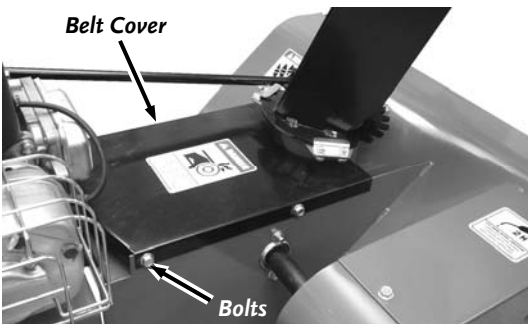

Figure 15
2. Remove the Belt Cover Bolts with a 1/2" Wrench and remove the Cover (**Figure 15**).